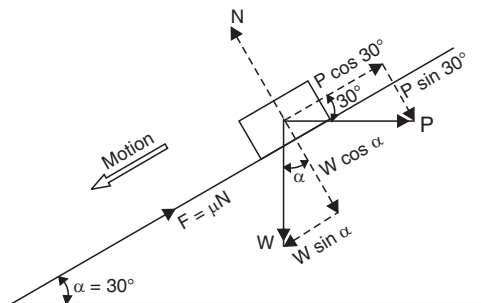

Fig. 6.19
**Sol.** Fig. 6.19 shows the various force acting on the object.